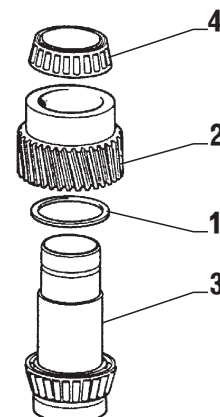

FIG. 3-2
ONLY ZF63IV: with transmission ratio of 1.3 to 2.0 the ring (item 1 Fig. 3-2) must be mounted
- With a transmission ratio of 1.3 to 2.0, a washer (item 1, Fig. 3-2) should be inserted.
- Press gear (item 2, Fig. 3-2) on shaft (item 3, Fig. 3-2), by means of a hydraulic press.
After having pressed the gear on, mount second inner race of bearing (item 4, Fig. 3-2) as described under 3.2.